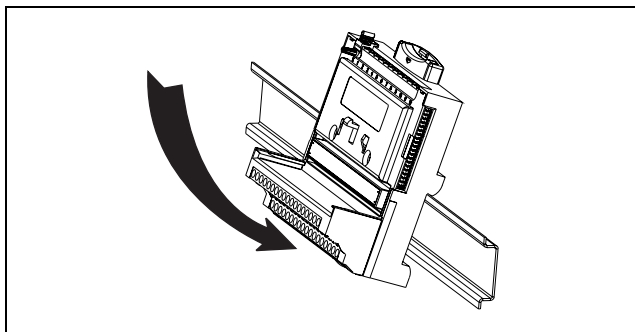

Figure 2. Attaching the Terminal Base to a DIN Rail
3. Attach the lip on the rear of the terminal base onto the top of a 35 mm DIN rail and press it down onto the DIN rail, as shown in Figure 2.